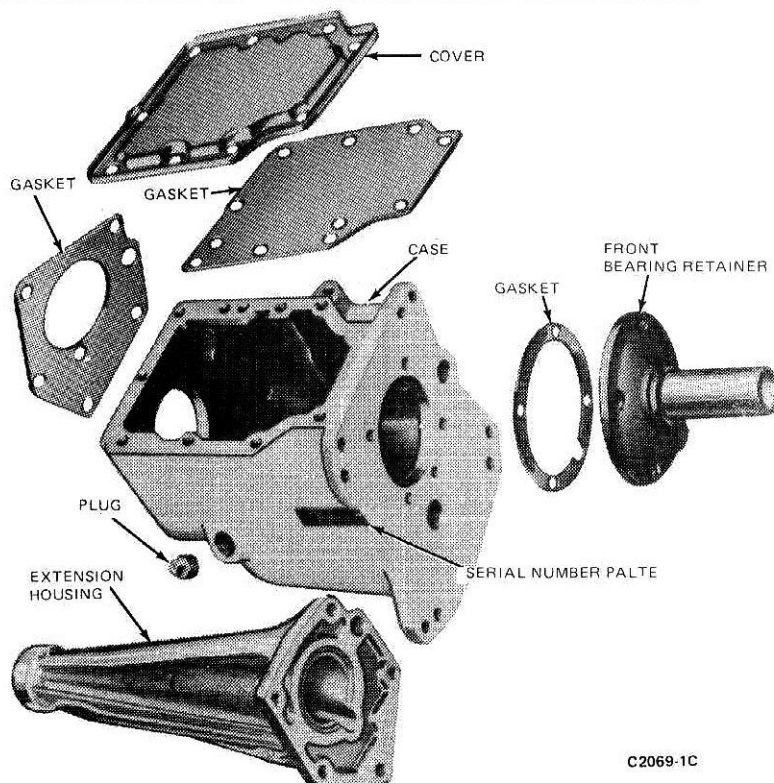

FIG. 4 Transmission Case and Related Parts—Typical
2. Remove the capscrews that attach the cover to the case. Remove the cover and the gasket (Fig. 4) from the case.